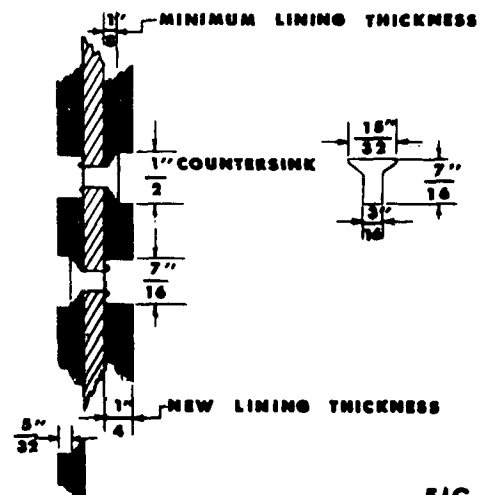

FIG. 8
(6) from side of pressure plate. Remove split nuts (2) and (3). Disconnect and free the movable and adjustable cam levers. Slide pressure plates (1) and (4) toward the center bearing far enough to remove linings. Lining discs are in halves for ease of replacement. See Figure 8 for lining detail.